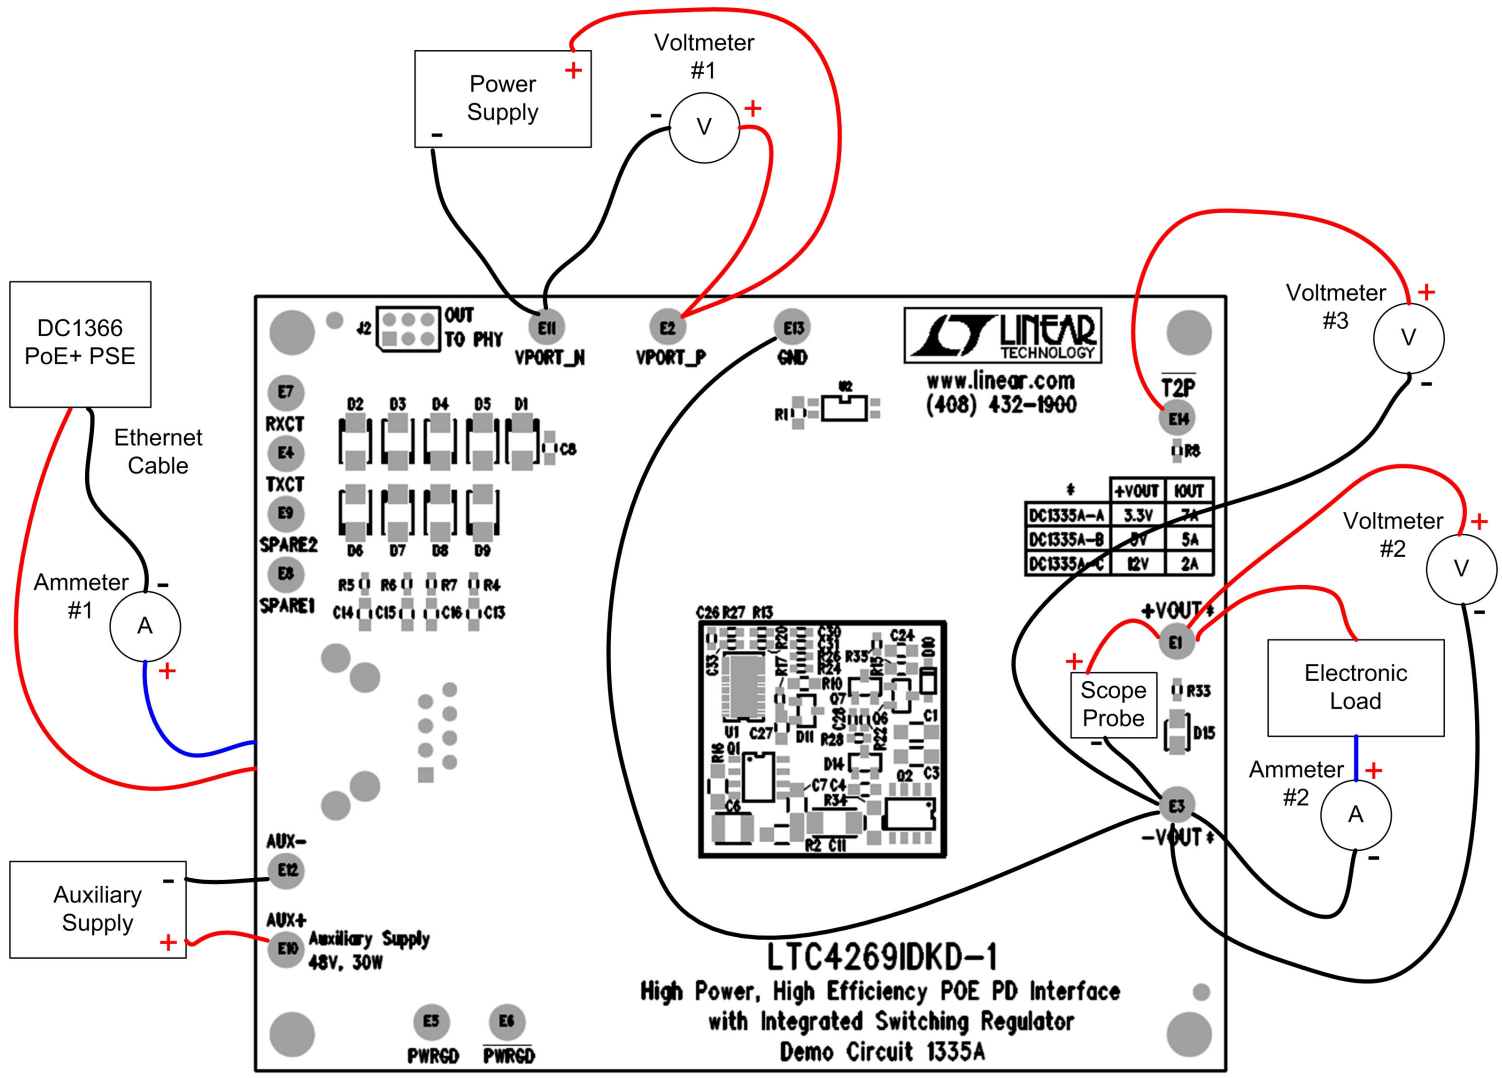

Figure 1. Proper Measurement Equipment Setup
Demonstration circuit 1335A-A is easy to set up to evaluate the performance of the LTC4269IDKD-1 in a PoE+ PD application. Refer to Figure 1 for proper equipment setup and follow the procedure below:
- a. Connect a PoE+ capable PSE with a CAT-5 cable to the RJ45 connector, J1. See Figure 1.
- b. Or, connect a 37V to 57V capable power supply ("Power Supply" in Figure 1) across VPORT\_P and VPORT\_N.
- c. If evaluating the auxiliary power supply ("Auxiliary Supply" in Figure 1) capability, connect a 44V to 57V capable power supply across AUX+ to AUX-.